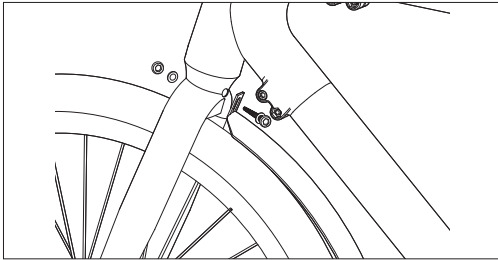

Figure 5-1
- After aligning the fender with the screw hole, retighten the mounting screws to affix it onto the front fork, as shown in **Figure 5-1**.